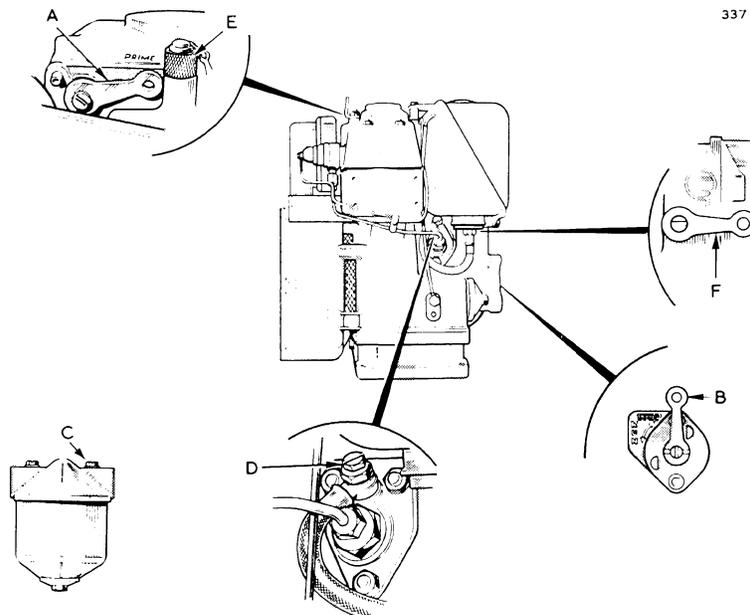

Fig. B1. Bleed and Prime Fuel System
- (1) Remove the engine lubricating oil filler cap (push down and twist) and fill sump with lubricating oil to high mark on dipstick, approximately 3.25 pints. Do not overfill. Select an approved grade (see Technical Data "Approved Lubricants") and continue to use it.
- (2) Remove square head screw plug in top of transmission housing and fill with lubricating oil to high level mark on dipstick. Use SAE 30 High Detergent Diesel Lubricating Oil. Replace screw plug.
- (3) Fill fuel tank. No. 2 Diesel fuel oil is recommended. No. 1 fuel oil is permissible but No. 2 is preferred because of its higher lubricant quality.
- (4) Lift the decompression lever (A, Fig. B1) vertically and rotate the drive pulley counter-clockwise approximately 12 revolutions to circulate the lubricating oil. Replace decompression lever to its horizontal position. (The decompression lever releases the pressure in the cylinder allowing the engine to crank with no resistance.)
- (5) Check that the starter battery is fully charged and that all electrical connections are properly made and all circuits in order.
- (6) Open cooling system inlet and outlet sea-cocks. There is no need to prime the cooling system as the pump is self-priming.
- (7) Bleed and prime fuel system, refer to Par. B, below.
B. To Bleed and Prime the Fuel System (Fig. B1)
- (1) Position shift lever in neutral.
- (2) Set throttle control lever to full speed position.
- (3) Move STOP/RUN lever (B) to RUN position.
- (4) Loosen inlet vent screw (C) on top of fuel filter, operate the hand priming lever of the fuel lift pump, and when fuel oil free of air bubbles issues from vent screw, tighten screw.
C. To Start (Fig. B1)
- (1) Position shift lever in neutral position.
- (2) Move throttle control lever to full speed position.
- (3) Position STOP/RUN control lever (B) to RUN position.
- (4) Push down and release the overload lever (F). (The overload lever supplies an excess of fuel oil to the injection pump for instant starting.)
- (5) Lift the decompression lever (A).
- (6) Operate the starter-generator control. As soon as engine starts to crank, replace decompression lever in horizontal position. When engine fires, release starter-generator control.
- (7) Immediately after engine has started, move throttle control lever back so that engine will run at fast idling rpm.
- (8) Refer to paragraph 12 "Procedure After Starting."
- (1) Remove the priming plunger (E, Fig. B1).
- (2) Fill the priming chamber with engine oil – NOT fuel.
- (3) Replace the priming plunger and press down.
- (4) It is advisable to keep a quantity of lubricating oil in a suitable container for this purpose.
- (b) Should the engine fire and then stop, prime again and release the overload stop lever (F), if fitted, before attempting to start.